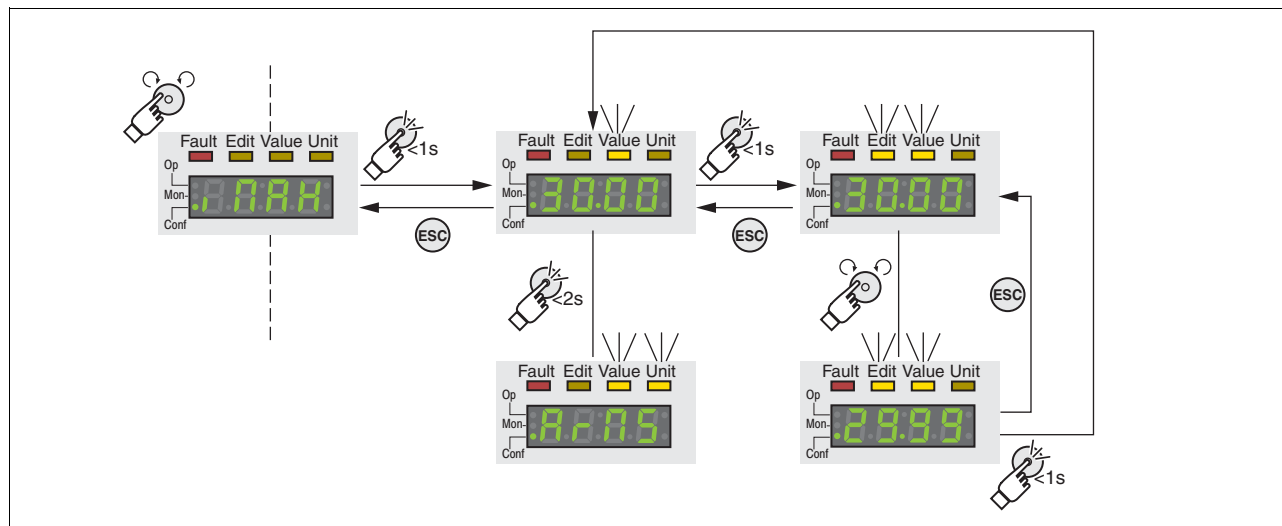

Figure 7.5 Integrated HMI, example of setting a parameter
- The parameter i_{PRH} (i_{Max}) is shown on the 7-segment display, see Figure 7.5.